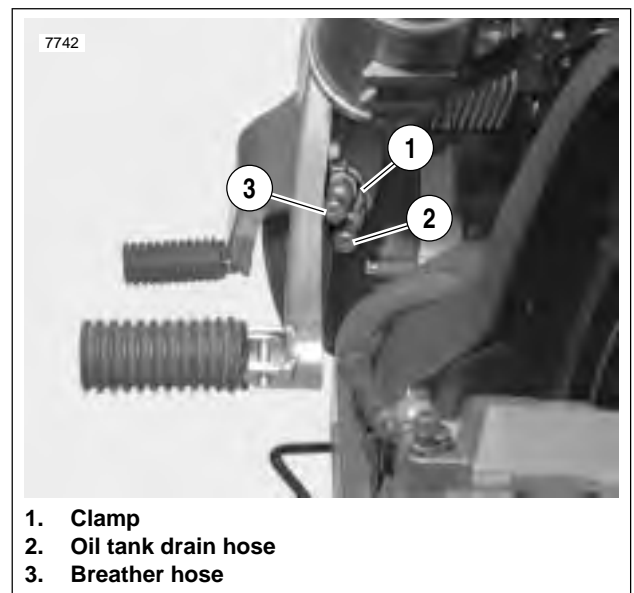

Figure 2-103. Left Side Footpeg Support Bracket
2. See Figure 2-103. On left side remove oil tank drain hose, breather drain hose, clamp and fastener.
3. See Figure 2-103. On left side install clamp with oil tank drain hose and breather hose.